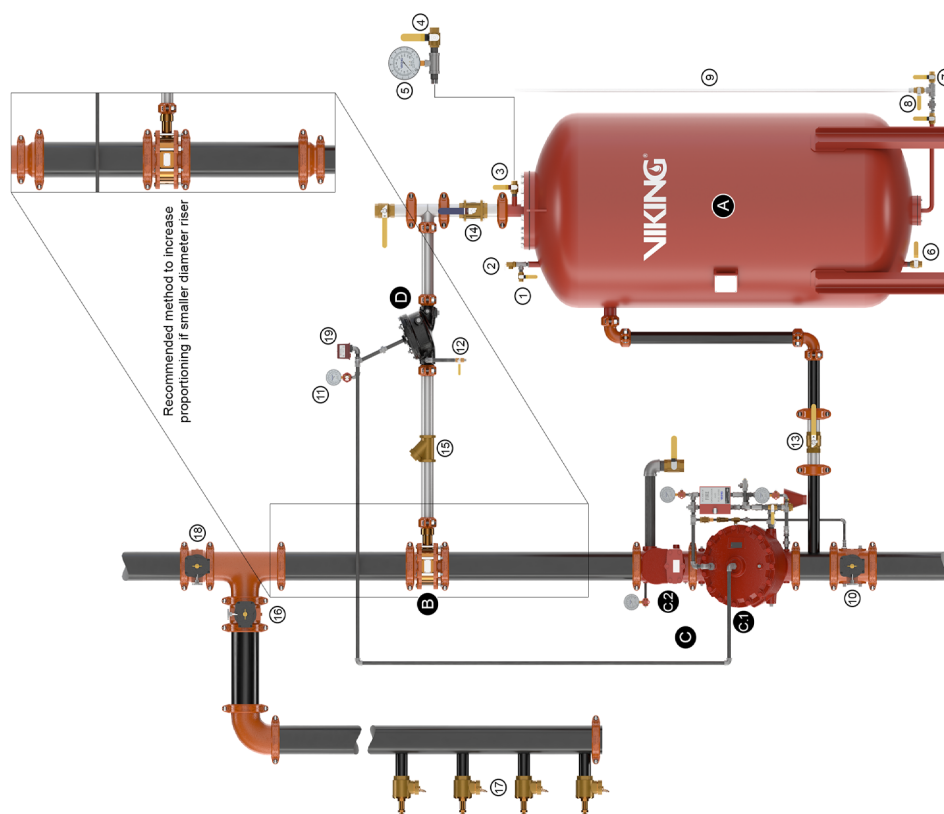

Figure 1
- B. The combined total equivalent length of pipe, fittings and valves in both the water supply inlet piping (12) and the foam concentrate discharge piping (15), must not exceed 65 equivalent feet (19.8 meters). This will allow both pipes to be the same size as the foam liquid inlet to the ratio controller.
- C. Figure 1 contains general schematics of the required piping arrangement. Refer to the appropriate technical data page for specific information regarding the valve, tank, and related trim and devices.
- F. The foam deluge CCV (D) does not require any trim, except for a 1/2" priming line, 1/2" auxiliary drain valve and gauge with 3-way valve. Plug all remaining valve trim outlets.